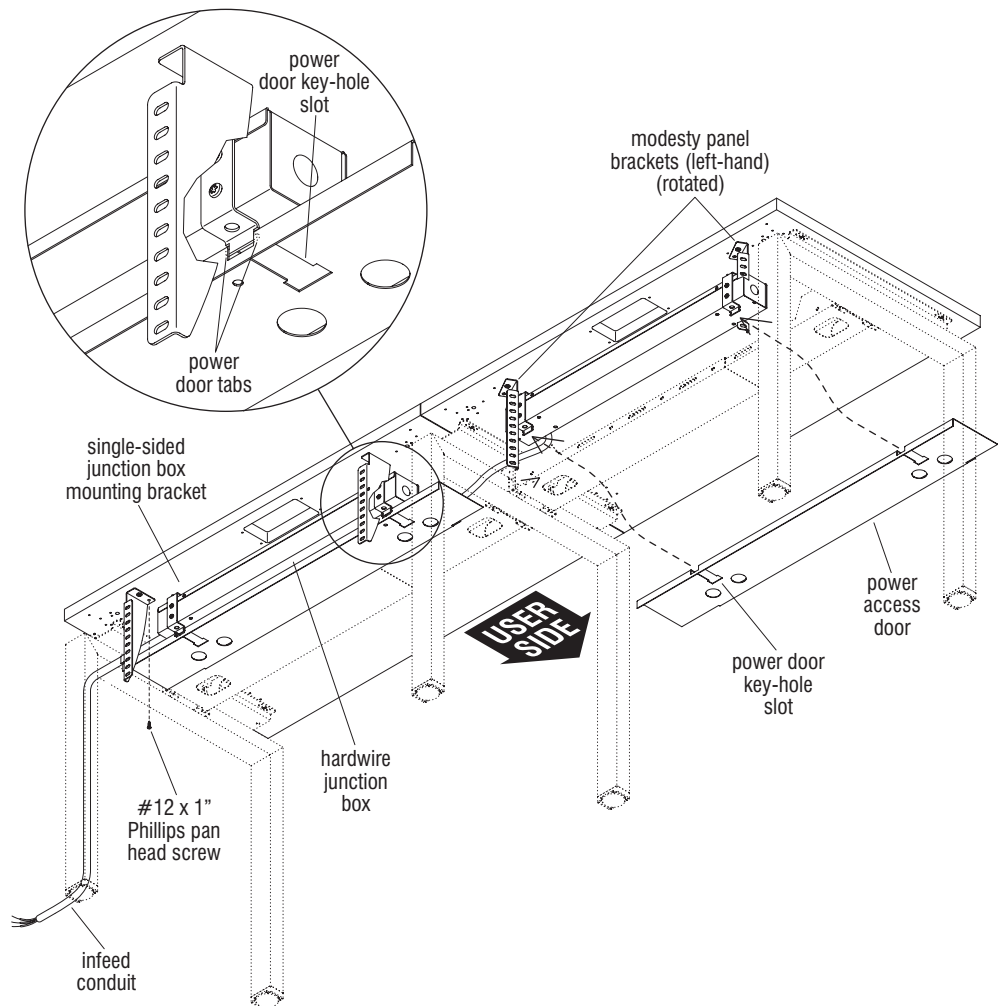

Figure 3 - Single-Sided Fixed Benching with Hardwired Electrical - Access Door Installation
9. Go now to page 30 and follow all instructions (Figures 3) to install the "power access door(s)" to the "power door tabs" of the junction box mounting brackets, and properly complete the assembly of the modesty panel or lock brackets to the underside of the worksurface.
10. Position the power access door as illustrated with the "key-hole slots" facing toward the "power door tabs" of the installed hardwire junction box. With the modesty panel brackets rotated to make room, push the power access door back toward the brackets, then up allowing the "power door tabs" to move down through the larger opening of the "key-hole slots". Once both sets of tabs have moved through the slot and engaged the door so it can not fall, pull the power access door toward the user-side with the tabs holding the door in position (Figure 3).
11. Rotate the right- and left-hand modesty panel brackets (or lock brackets if no modesty panels are specified) straight, aligning the remaining bracket mounting holes with the pre-drilled holes in the underside of the worksurface. Secure each bracket with remaining #12 x 1" Phillips pan head screws. Take care to make sure all screws are secure (Figure 3).